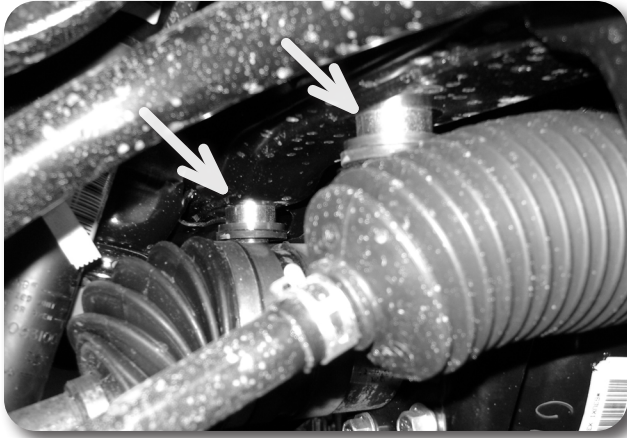

Figure 5 - Passenger Side with spacers installed
15. Repeat steps 13 & 14 for the other side of the vehicle. **Figure 5**